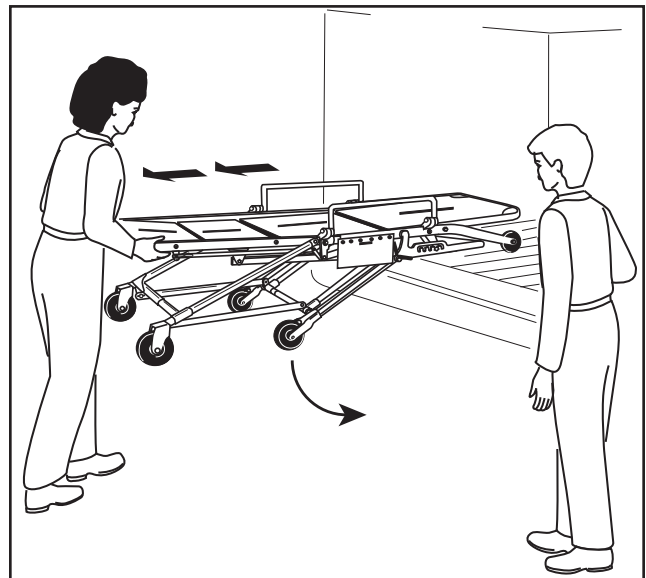

Figure 11 - Unloading the Cot
2. **Control Operator:** Grasp the main frame at the foot end of the cot and begin pulling the cot out of the ambulance. The undercarriage will begin to unfold (Figure 11).